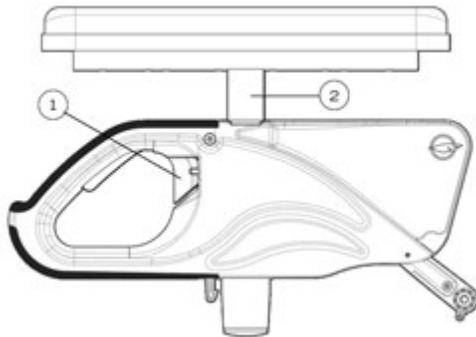

Fig. 15
- Flip lever (1) (Fig. 15) left or right to unlock the armrest.
- Adjust the structure (2) at the desired height.